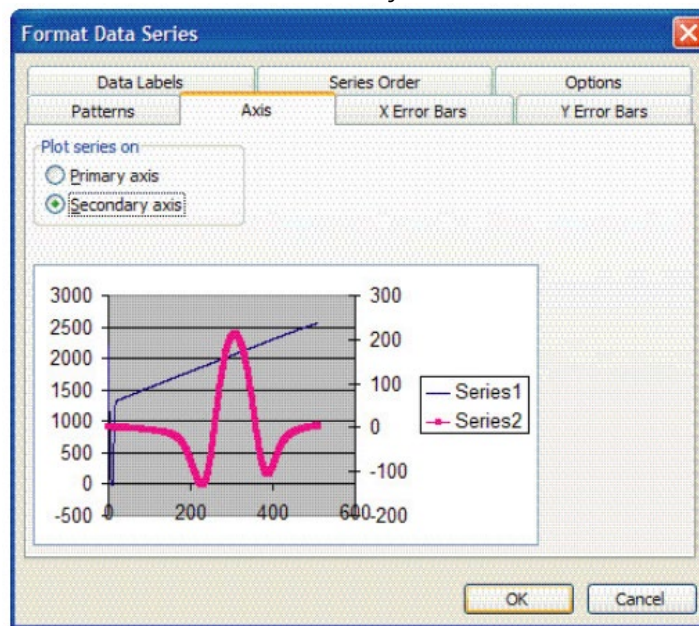

Figure 15. Format data series window
7. If the 2f curve appears flat, double click on it to get to the Format Data Series Window, as shown in Figure 15. Select the Axis tab and select Plot Series on Secondary Axis. Click OK to rescale the plot.